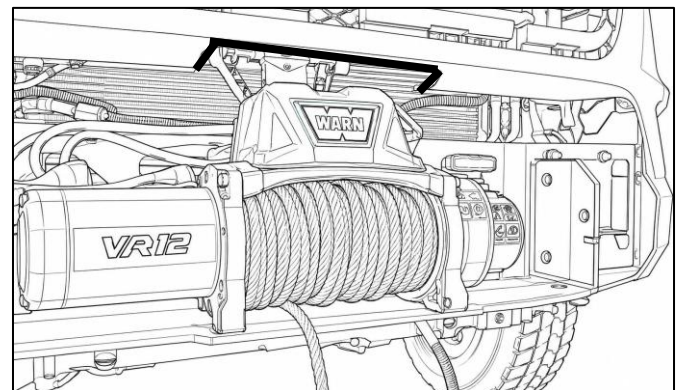

Figure 17: Winch Controller Relief Example
23. ☐ Using a Dremel or cutoff wheel, cut the mesh from the air flow relief. Cut a large enough relief on the top center section to provide clearance for a winch solenoid controller. **See Figure 17.**